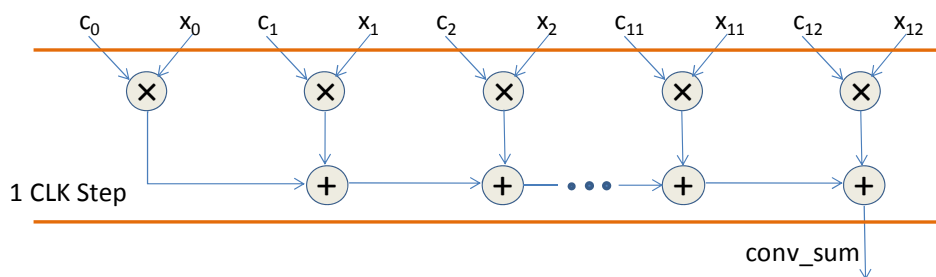
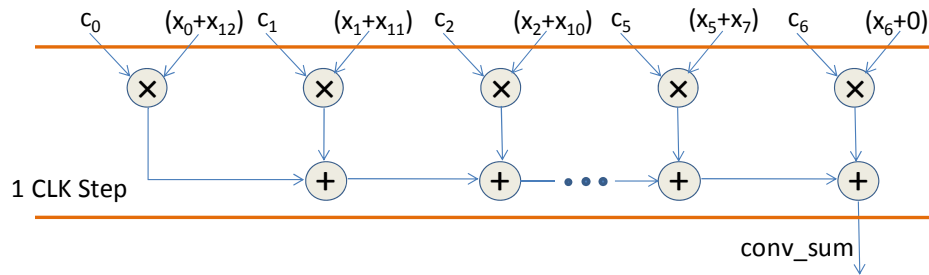

Figure 3. Fully parallel 13-tap FIR filter
Figure 4. Symmetric fully parallel 13-tap FIR filter
For this laboratory the VHDL code for a fully parallel FIR filter is given in a folder IL2225\_LAB/LAB1/ParallelFIR. The architecture of the fully parallel FIR is shown in Figure 3. To implement the delay line a shift register is used.
**Question:** How many adders and multipliers are there in the critical path of the FIR filter with the architecture shown in Figure 3? \_\_\_\_\_
If the FIR filter is symmetric, it is more efficient to implement it as shown in the figure 4.
**Question:** How many adders and multipliers are there in the critical path of the FIR filter with the architecture shown in Figure 4? Comparing the architectures shown in figure 3 and 4 which one has a shorter critical path? \_\_\_\_\_